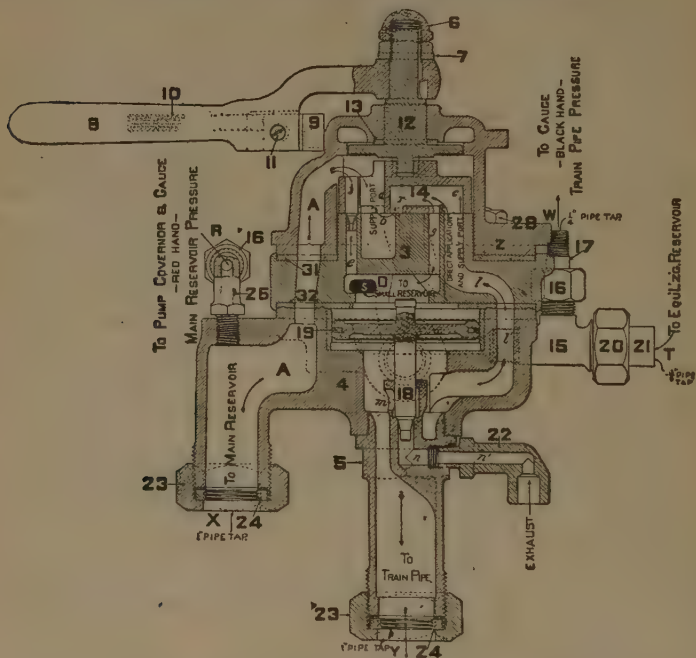

Fig. 282. Engineer's Brake Valve, "G-6," Release Position.
A. As the pipe from the main reservoir is connected at X (Fig. 282), main reservoir air passes through A, A to the chamber above the rotary valve 14, through this and the passage 11 to the train pipe at Y. Port g being exposed to cavity c